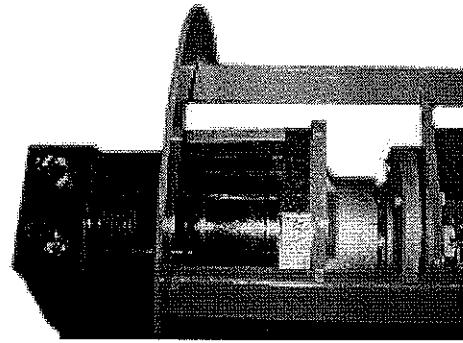

figure 27
15. Tighten hardware on the bearing (single motor only). Pull the motor housing(s) against the motor flange(s) (figure 27); tighten the hardware.